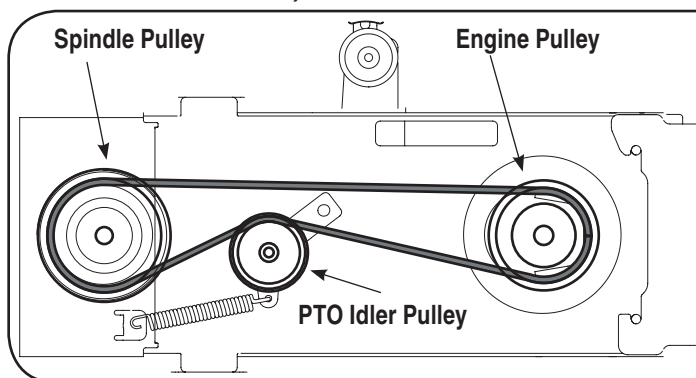

Figure 30
1. Attach and route the upper drive belt around the engine pulley and spindle pulley, routed to the INSIDE of the PTO idler pulley on the undercarriage. Make sure the belt is routed inside of the belt keeper pins found around the spindle pulley and engine pulley. See Figure 30.